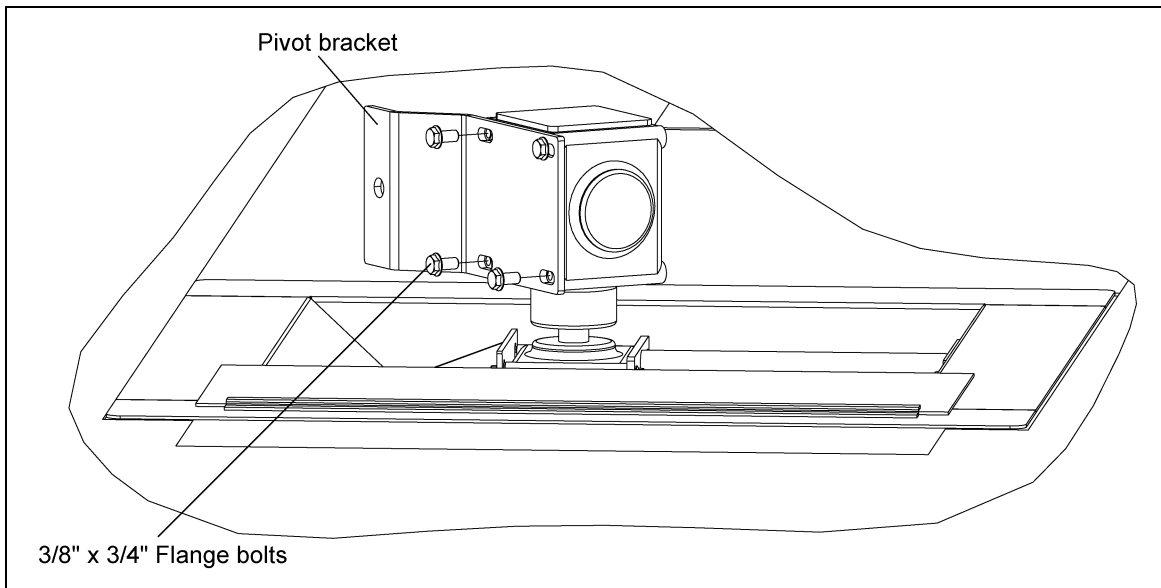

Figure 4AA
- a. Attach the pivot bracket to the left side of the gear box using four (4) 3/8" x 3/4" flange bolts. (See Figure 4AA.)